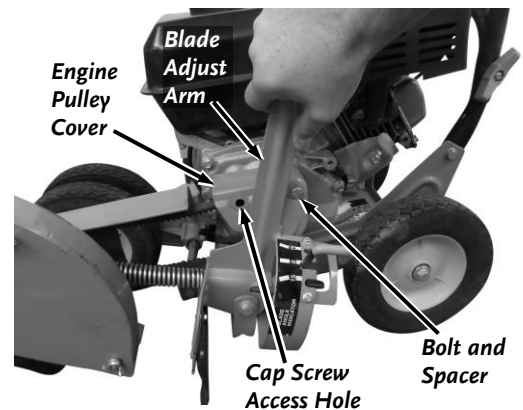

Figure 22
2. Remove the Cap Screw and Flat Washer at the front of the Engine Pulley Cover using a 6mm Hex Key (**Figure 22**).